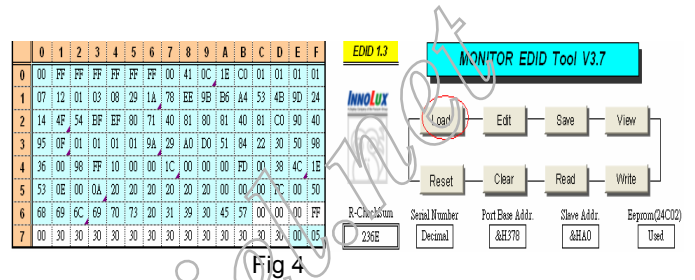

Fig 4
4. Double press the "H00" file or "H01" file ,then it acquires the hex file automatically, and a message will be showed in the dialog box to notice the operator . At this moment, please verify the checksum of the hex file with the firmware control table to make sure the suitable file will be used. Mentioned firmware control table will be provided by suppliers shown in Fig. 4.